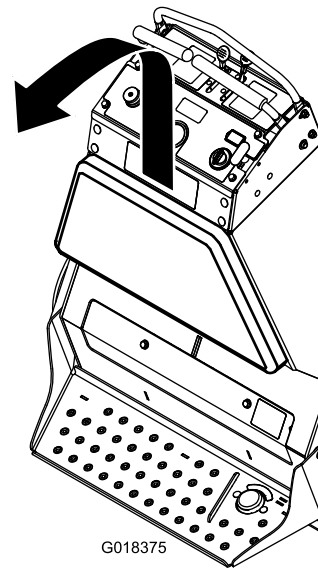

Figure 6
5. Lift the pad up and back to remove it (Figure 6).